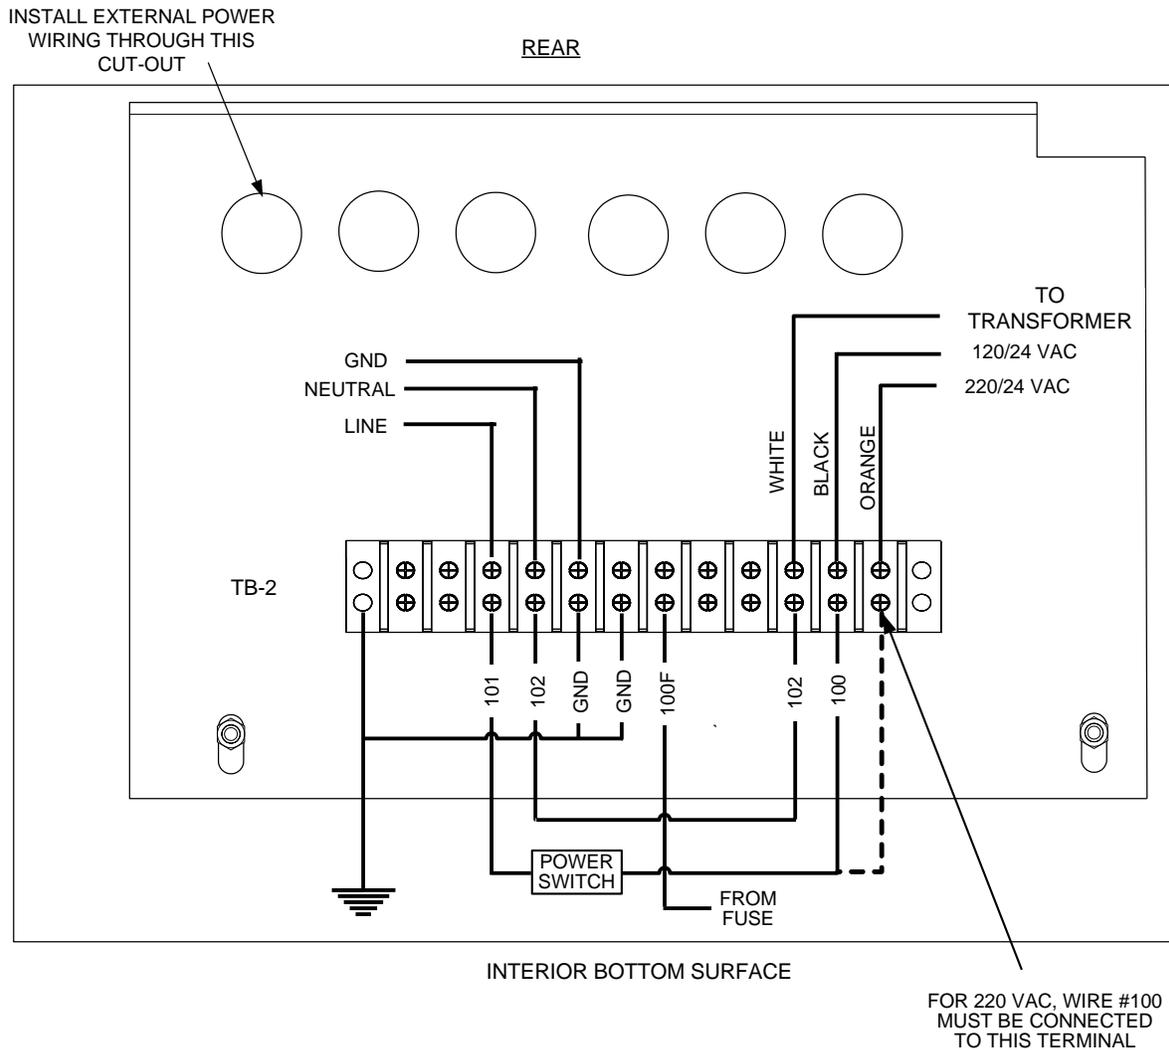

Figure 2-6. ECS/SP Control Box AC Power Connections
3. Swing down the recessed panel to access Terminal Block TB-2 on the bottom interior surface of the Control Box, shown in Figure 2-6.
5. Connect LINE, NEUTRAL and GROUND leads to the TB-2 terminals shown in Figure 2-6.